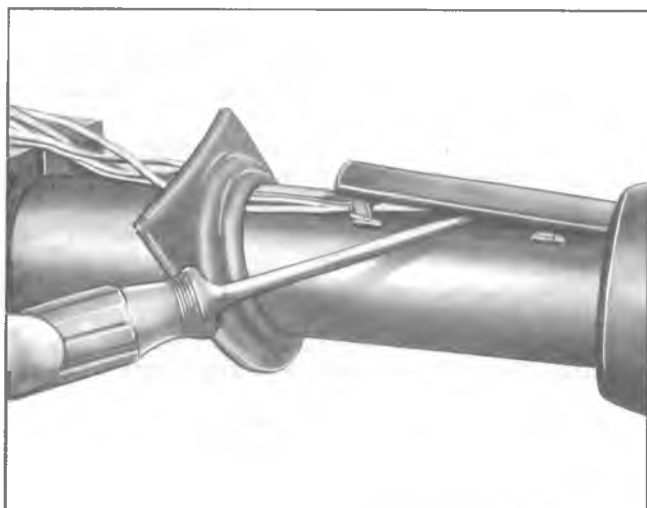

Fig. 14—Removing Wiring Harness Protector
5. Pry the wiring harness protector out of the column retaining slots as shown in Figure 14.